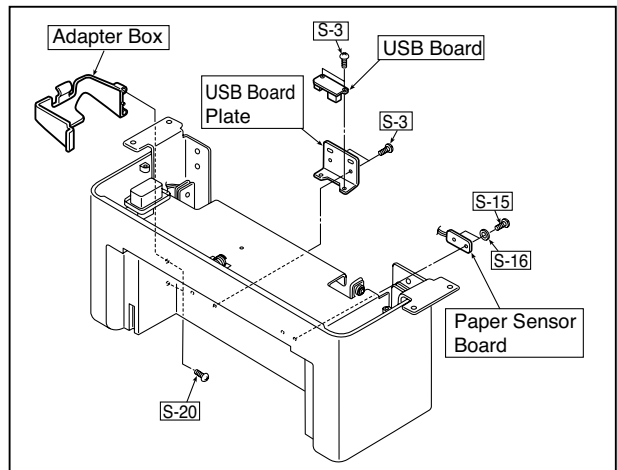

Fig.5
### 4) Remove the USB Board and Paper Sensor Board. (See Figs.5)
- 1.Remove the "S-3" screws shown in the figure 5 and then remove the USB Board